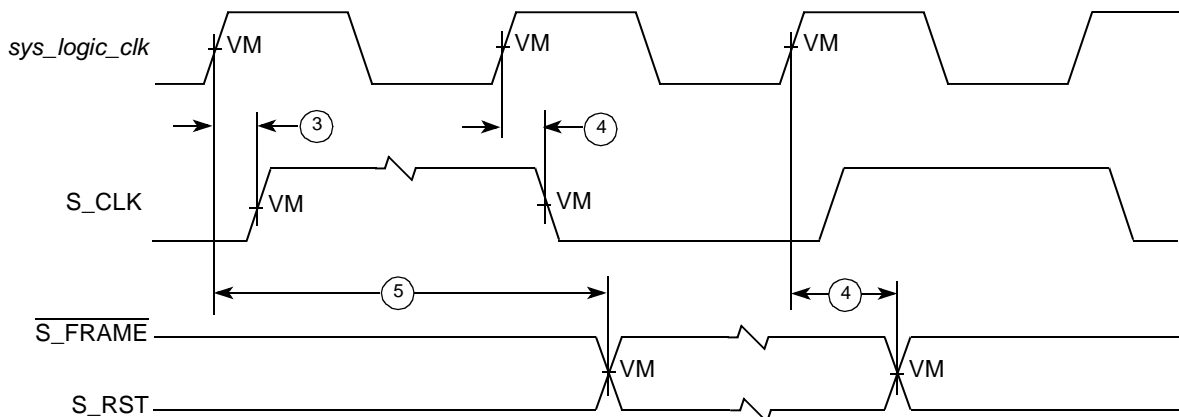
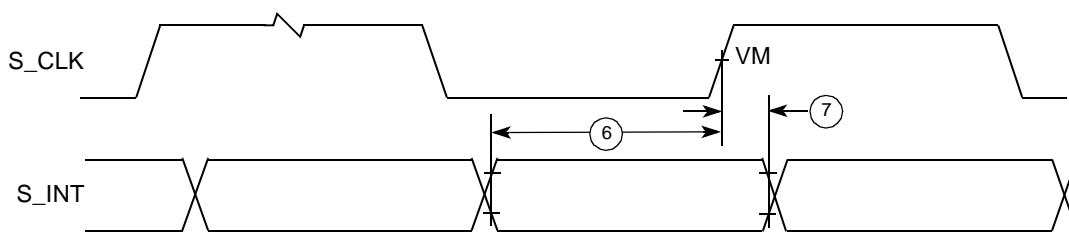

Figure 18. PIC Serial Interrupt Mode Output Timing Diagram
Figure 19. PIC Serial Interrupt Mode Input Timing Diagram
2. S_RST, S_FRAME, and S_INT shown in Figure 18 and Figure 19, depict timing relationships to *sys_logic_clk* and S_CLK and do not describe functional relationships between S_RST, S_FRAME, and S_INT. The *MPC8245 Integrated Processor Reference Manual* describes the functional relationships between these signals.